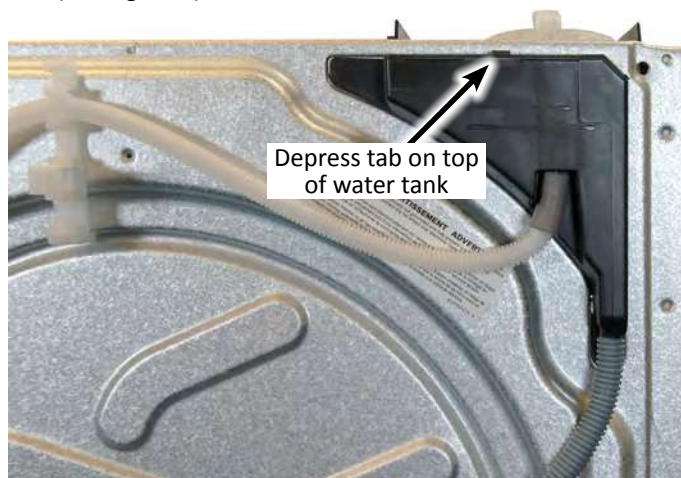

Figure 3
5. Depress the top tab on the back of the water tank housing (see Figure 3).